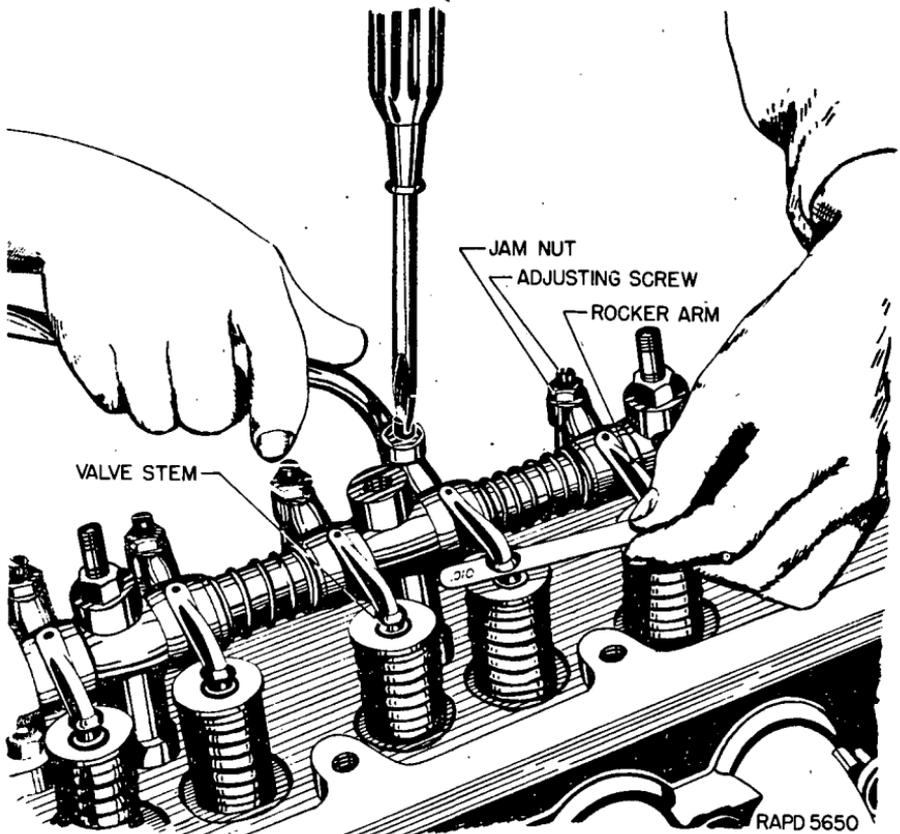

FIGURE 12.—Valve tappet adjustment.
(1) Loosen the hose clamp near the air cleaner end of the carburetor hose connection.
(2) Remove the two hex head cap screws which secure the air cleaner to the engine block.
(3) To replace, proceed in the reverse of the above procedure, being sure to replace the lock washers beneath the heads of the cap screws.
**42. Valve tappet adjustment.**—The valve clearance is adjusted with the engine at normal operating temperature. The following procedure is prescribed (fig. 12) :